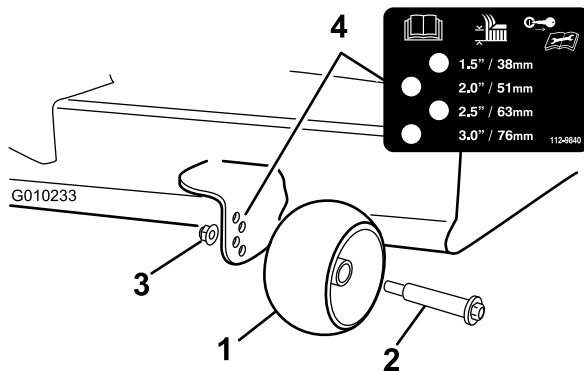

Figure 17
3. Adjust the anti-scalp rollers as shown in Figure 17 to match the closest height-of-cut position.